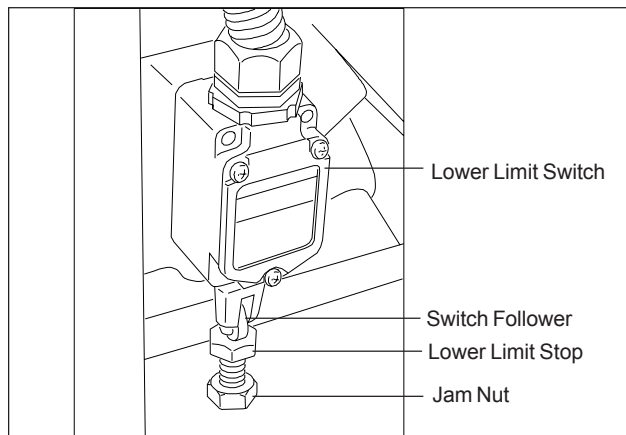

Figure 15: Lower Limit Switch Stop Adjustment
2. To set the limit switch, loosen the jam nut on the limit switch stop (figure 15).